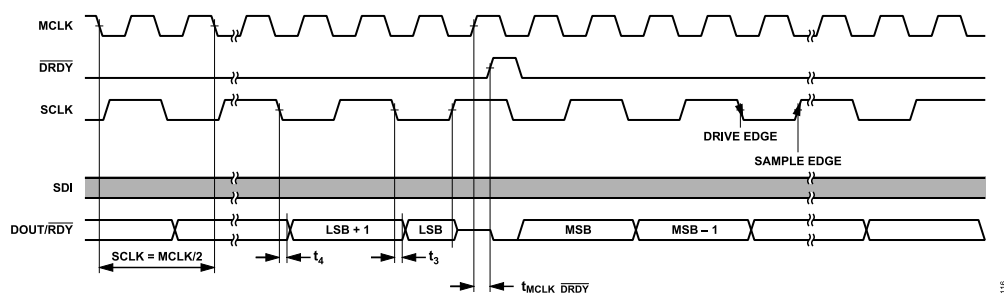

Figure 178. Recommended Interface for Reading Conversions, SPI Control, Continuous Readback Mode
The ADAQ7769-1 interface is flexible to allow the many modes of operation and for data output formats to work across different DSPs and MCUs. To achieve maximum performance, the recommended interface configuration for reading conversion results is shown in Figure 178. This recommended implementation uses a synchronous SCLK to MCLK relationship.
Figure 178 shows how the recommended interface operates. The data readback spans the entire length of the  $\overline{\text{DRDY}}$  period, and the LSB remains until  $\overline{\text{DRDY}}$  goes high for the next conversion.
2. Generate SCLK based on the  $\overline{\text{DRDY}}$  or  $\overline{\text{RDY}}$  timing. SCLK is high when the  $\overline{\text{DRDY}}$  signal goes high and transitions on the MCLK falling edges (see Figure 178) to ensure that the LSB can be read correctly as the DOUT/RDY output is reset on the  $\overline{\text{DRDY}}$  rising edge. However, SCLK rising occurs before this transition.
Because the full ODR period is for clocking data, the  $\overline{\text{RDY}}$  signal no longer flags after each LSB outputs. This signal only flags if the ADAQ7769-1 is in continuous readback mode, or if the ADAQ7769-1 does not count 32 SCLKs within  $1 \times t_{\text{MCLK}}$  before  $\overline{\text{DRDY}}$ , as shown in Figure 178.